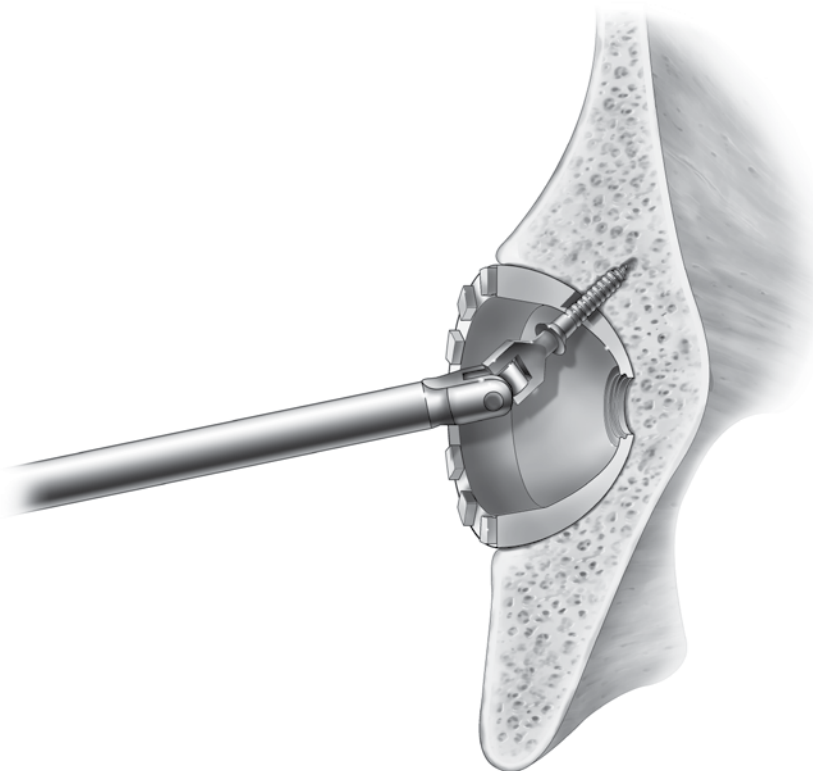

Figure 8
Step 4: Determine the screw length by reviewing the depth indicator on the shaft of the Flexible Depth Gauge. Assemble the **Ratcheting Driver Handle** to either the **3.5mm Universal Screwdriver** (for 6.5mm Bone Screws) or the **2.5mm Screwdriver Bayonet Connection** (for 4.5mm Peripheral Rim Screws). Using the **Screw Holding Forceps** to hold the screw, insert the appropriate Bone Screw taking care to fully seat the screw (*Figure 8*). The acetabular shell holes allow +/- 11 degrees of screw angulation for proper seating of the screw. Failure to seat the screw could result in impingement with the locking mechanism of the mating acetabular liner. If extremely hard bone is encountered, a **6.5mm Bone Tap, Bayonet Connection**, may be used after drilling to prepare for a 6.5mm Bone Screw.